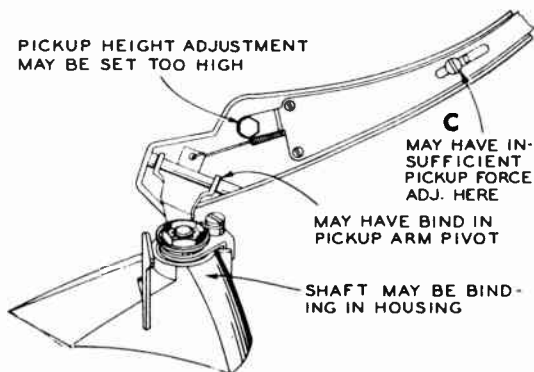

Figure V16.
6. **Pickup Skips Grooves:** See figure V16.